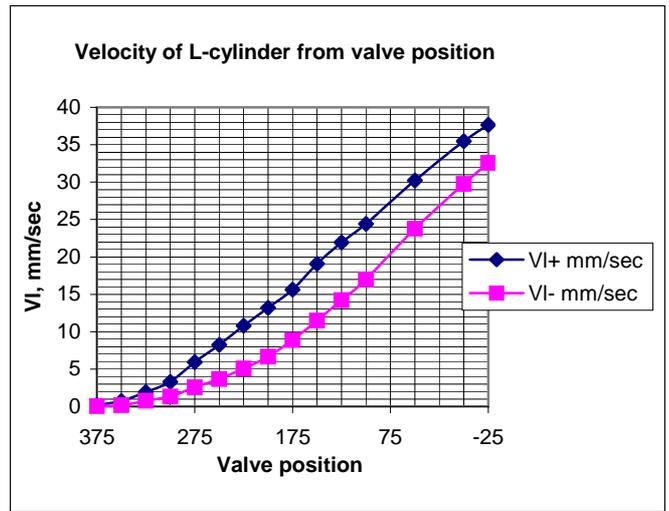

Fig.6. Velocity in L+-directions as a function of valve position.
10. Turn valves of the oil hydraulic system to desired positions. Velocity dependences of the oil hydraulic cylinders are shown on Fig.6, 7,8.